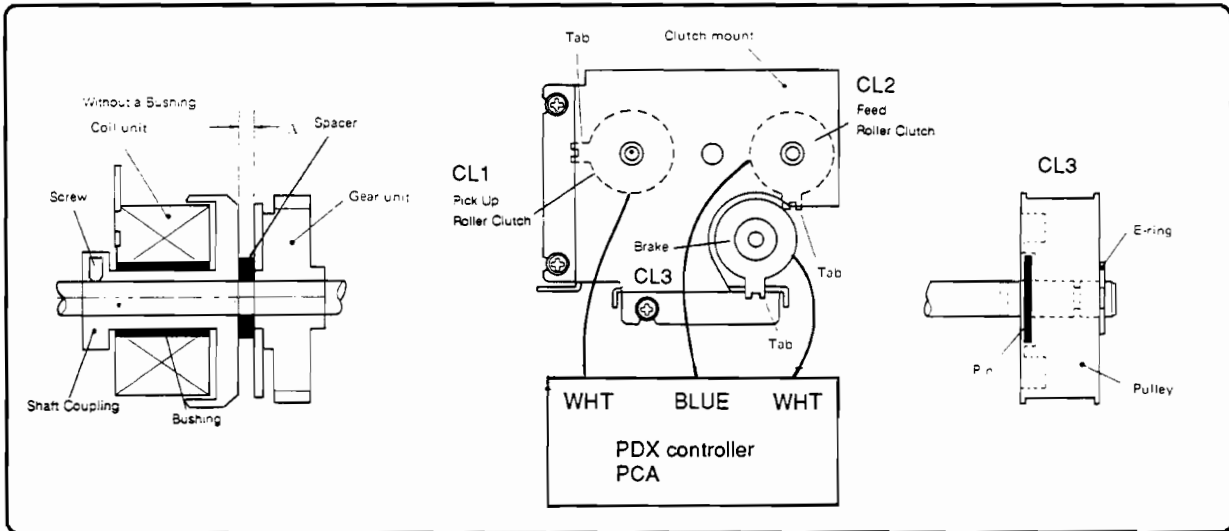

Figure 6-145. PDX Clutch Details
When detaching the pulley, use care not to lose the pin inside the pulley (see Figure 6-145, right side).
4. Remove the set screws and take out both clutches (Figure 6-145).
Mounting the clutch: The clutch is (gap A) adjusted at the factory with a spacer shown in Figure 6-145 between the gear unit and coil unit. This gap is set with a spacer which must be installed between the coil and the gear units.
Attaching the clutch mount: When attaching the clutch mount, position the tabs on the clutches as shown (Figure 6-145). Make sure the pick-up roller shaft is centered in the hole (Figure 6-145).
Position of drive pulley: Mount the drive pulley as shown in the right portion of Figure 6-145.